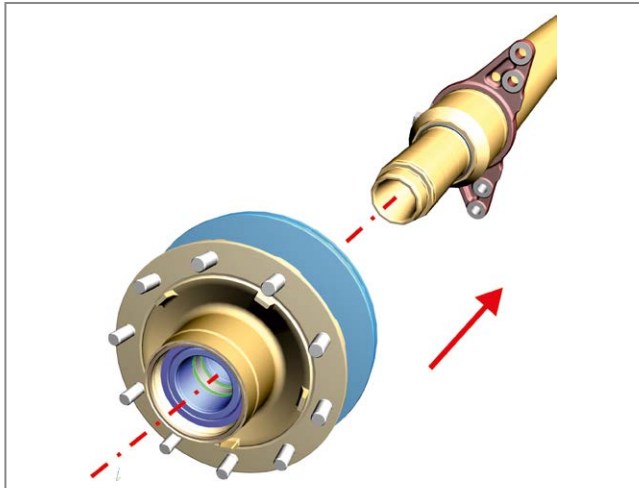

Fig. 10 - Mount the wheel hub
1. Grease the axle stub end and place the wheel hub unit ► *Fig. 10* on the axle stub end.